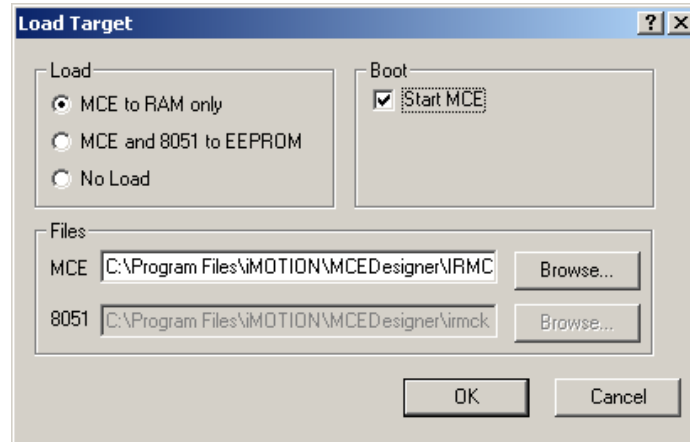

Figure 48—Load MCE to RAM
4. In the Load box, click the “MCE to RAM only” radio button as shown in Figure 48. In the Boot box, check the “Start MCE” checkbox if you want MCEDesigner to start execution of the MCE code after it’s loaded. If you want to start execution as a separate operation, leave the checkbox unchecked.